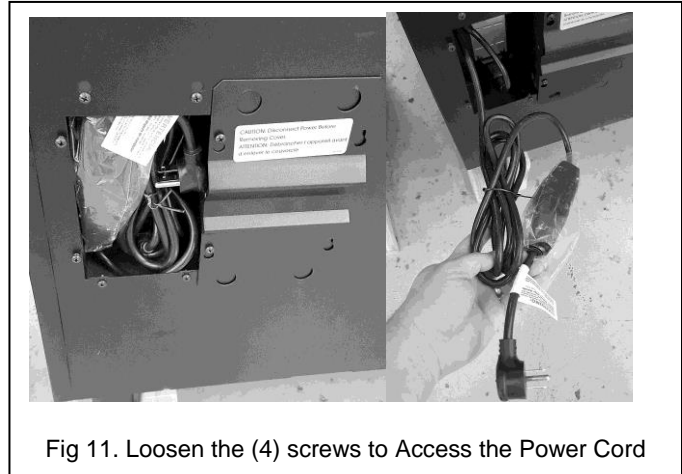

Fig 11. Loosen the (4) screws to Access the Power Cord
Loosen the (4) screws fixing the connection box cover, remove the cover and park on (2) screws as shown in Fig 11. The power cord and GFCI can be removed from its housing, the cover can then be replaced and secured. Keep the power cord secured on the center back of the cabinet until the vendor is placed into its final location to avoid damage to the cord.